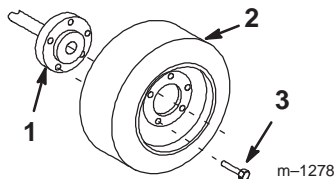

Figure 1
3. Install the wheels onto the hubs with the valve stems facing inward (Fig. 1).